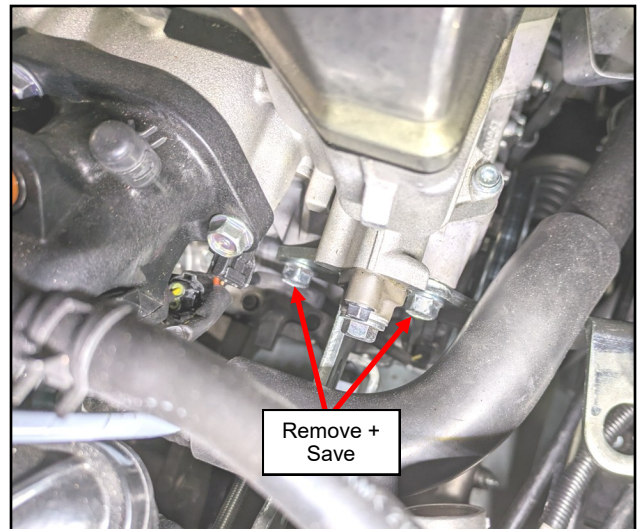

Fig. 2.16 (Remove Upper Alternator Bracket)
2.16 Remove upper alternator bracket per fig. 2.16. Save the mounting screws for reuse.